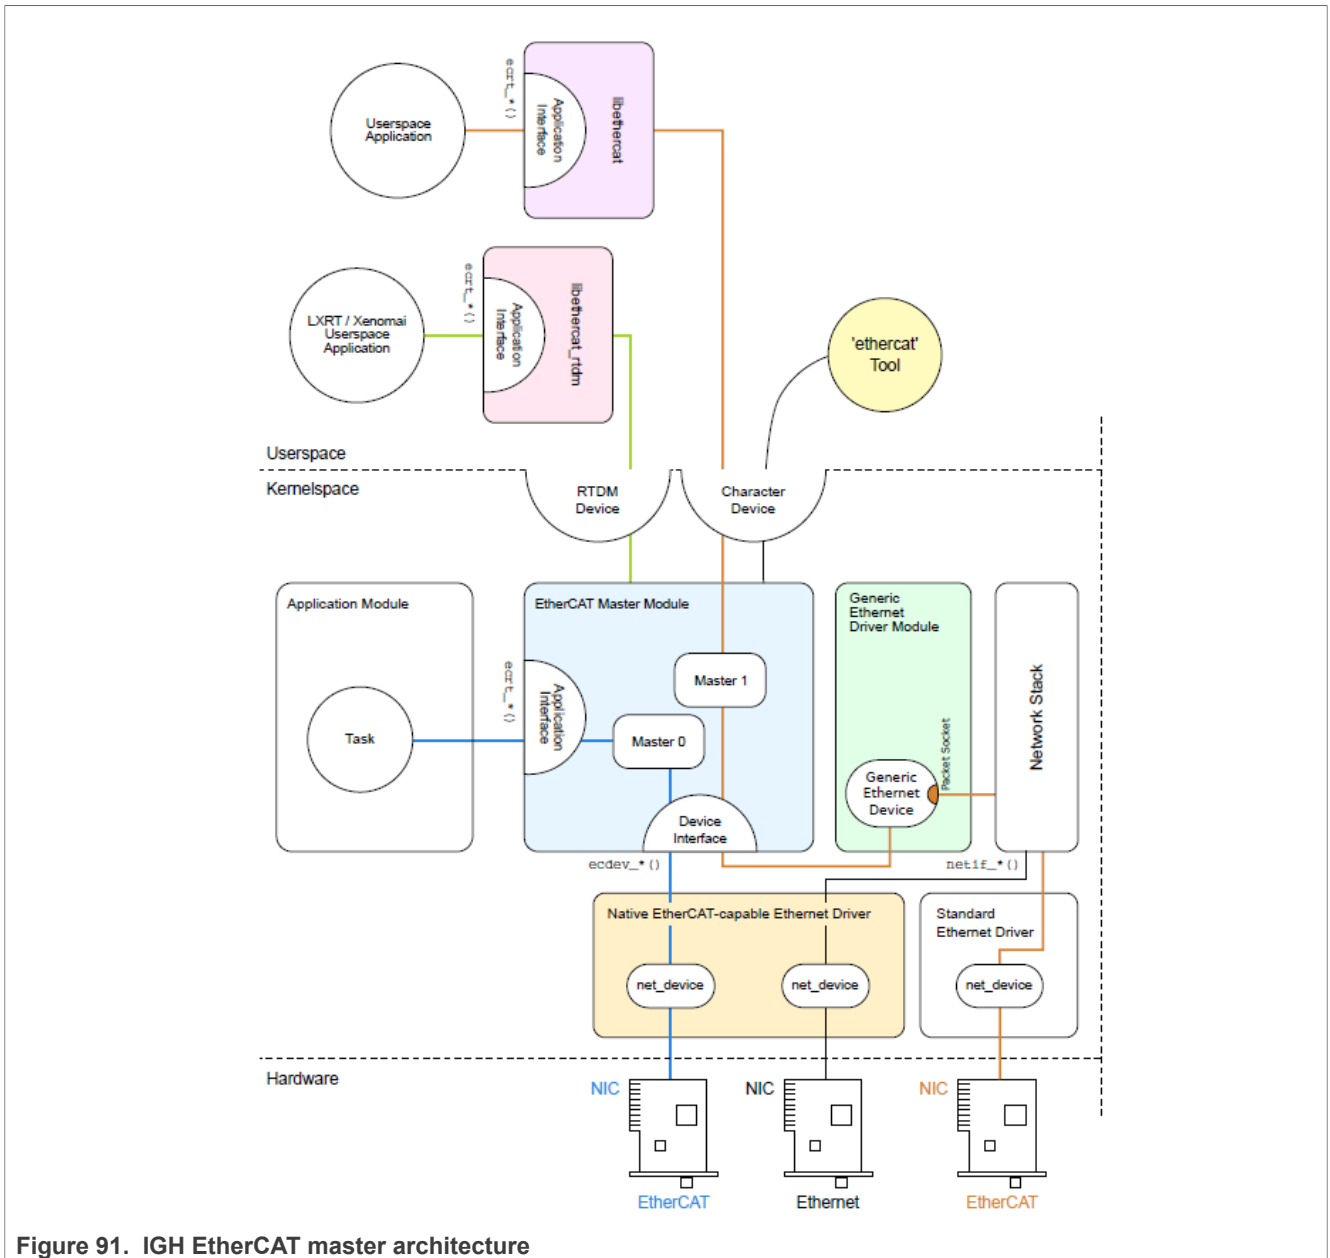

Figure 91. IGH EtherCAT master architecture
- **Application:** A program that uses the EtherCAT master (usually for cyclic exchange of process data with EtherCAT slaves). These programs are not part of the EtherCAT master code, but require to be generated or written by the user. An application can request a master through the application interface. If this succeeds, it has the control over the master: It can provide a bus configuration and exchange process data. Applications can be kernel modules that use the kernel application interface directly. They also include user space programs, which use the application interface via the EtherCAT library or the RTDM library. The Figure 91 shows the IGH EtherCAT master architecture.